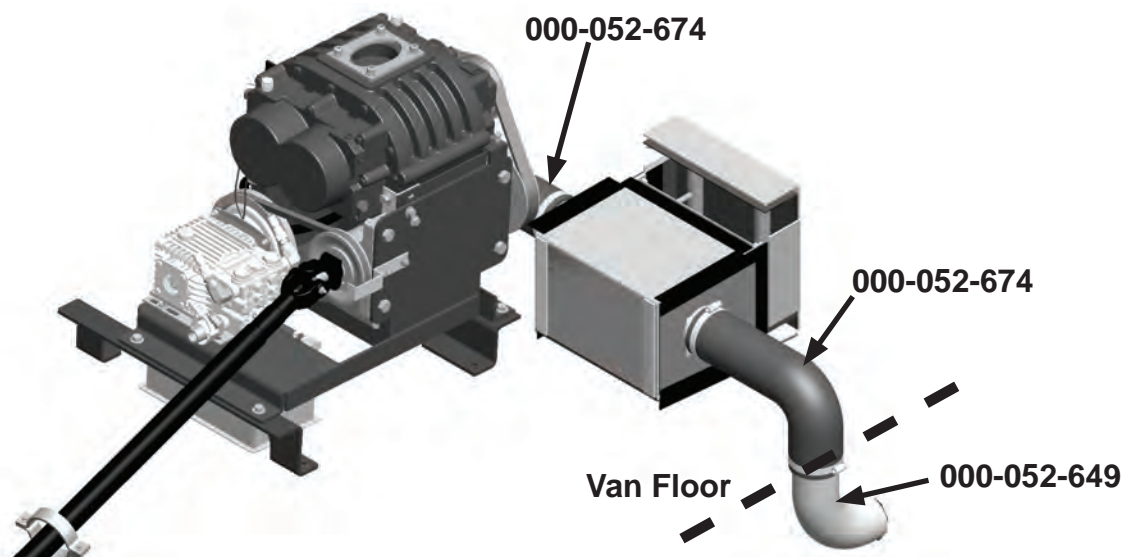

Figure 46. Connect Blower Heat Exchanger's Rubber Hoses and Elbow
- Dry fit the Blower Heat Exchanger behind the driver's seat location. Mark the location on the van's floor where the 3" diameter rubber hose (P/N 000-052-674) will be inserted (see Figure 46).
2. Connect the 3" diameter rubber hose (P/N 000-052-674) on the outlet weldment of the Blower Heat Exchanger, and route it through the hole in the van floor. Secure the hose to the Blower Heat Exchanger outlet with a hose clamp (see Figure 46).
3. from under the van's floor, slip fit the 3" aluminum elbow (P/N 000-052-649) into the rubber hose protruding through the floor. Secure the elbow to the hose with a hose clamp (see Figure 46).